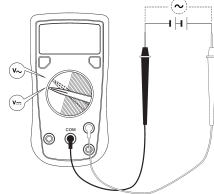

figure 1
A. DC / AC Voltage Measurement (See figure 1)